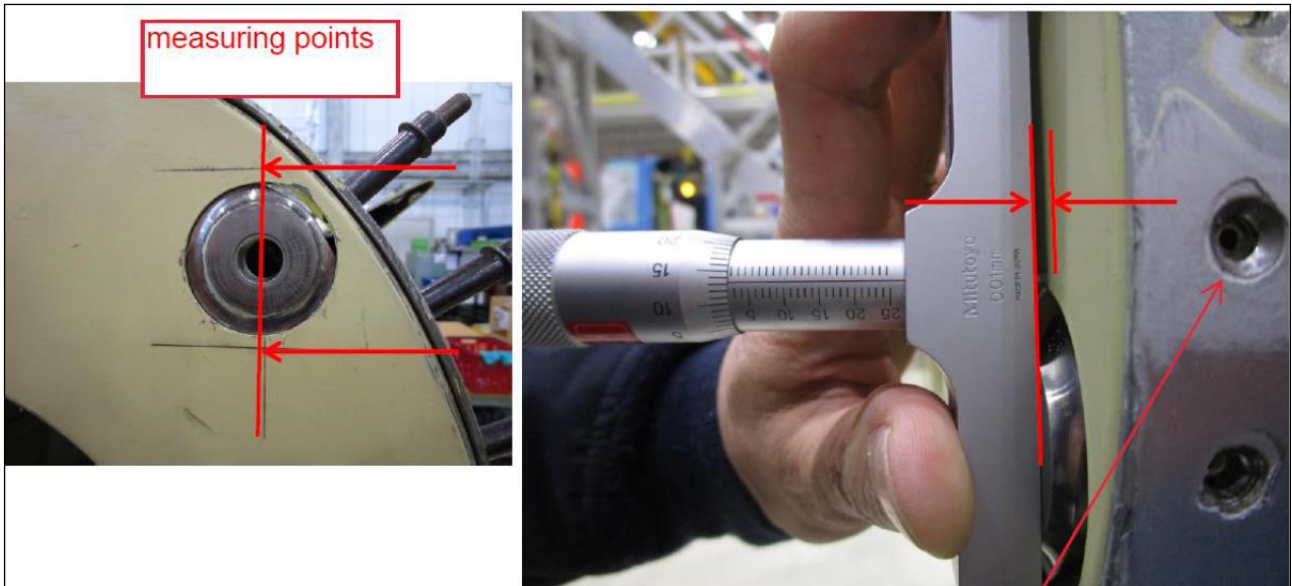

Figure 11
4. Check the reference plane of the frame STA 8701.6 by measuring and recording the after spot-facing dimensions of fitting bosses (over frame surface) for the 6 tail longeron fittings as shown on figure 11.